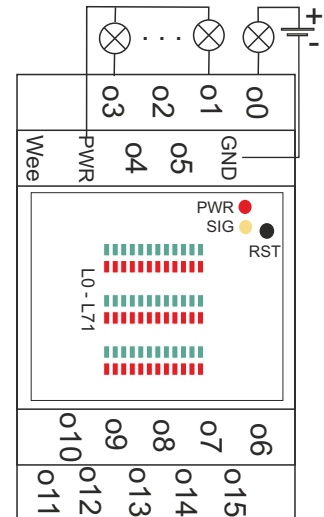

Fig 1. Diagram of the coupling connection
1. Note of the card PIN and Serial Number (SN) device (Both located on the housing of the device)
2. Connect the cables PWR / GND, o0..o15 by Fig 1